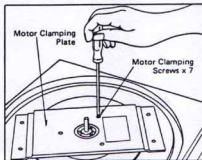

Fig. 8
4. Remove the motor clamping plate and screws (Fig. 8)